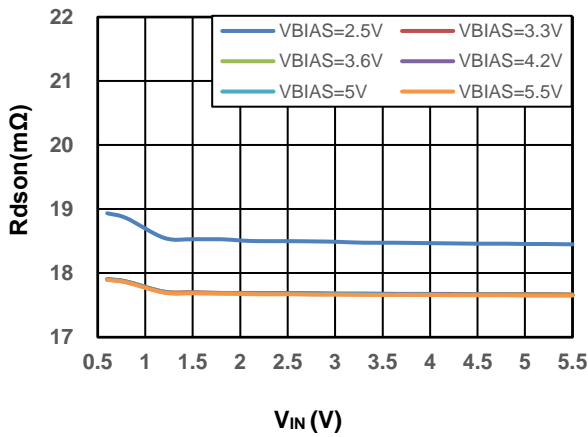
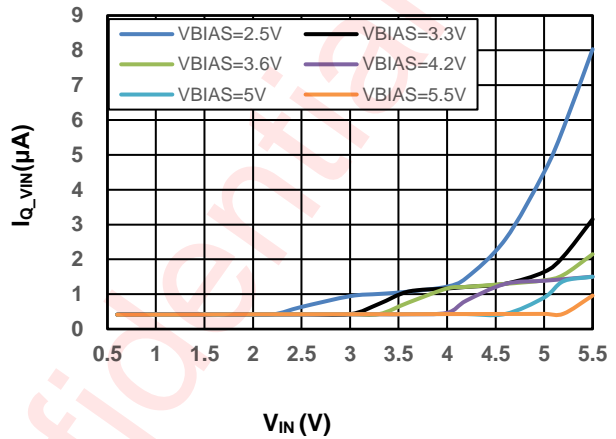

Figure 27 Rdson vs. V_{IN}(I_{OUT}=-200Ma)
Figure28 IQ_VIN vs. V_{IN}, No load
For optimal R_{ON} and I_Q performance, make sure V_{IN} ≤ V_{BIAS}. If V_{IN} > V_{BIAS}, the device is still functional. In this condition, R_{ON} will not change greatly, as shown in Figure 27, but it exhibits I_{Q_VIN} greater than what is listed in the Electrical Characteristics table. See Figure 28 for an example of a typical device, and notice the increasing I_{Q_VIN} as V_{IN} exceeds V_{BIAS} voltage. Make sure to never exceed the maximum voltage rating for V_{IN} and V_{BIAS}.
2. The AW35142A integrates an up to 6A NMOS FET, and the PCB design rules must be respected to properly evacuate the heat out of the silicon. By increasing PCB area, especially around IN and OUT pins, the $R_{\theta ja}$ of the package can be decreased, allowing higher power dissipation. Power lines will flow large current, please route them on PCB as straight, wide and short as possible, as in figure 27.